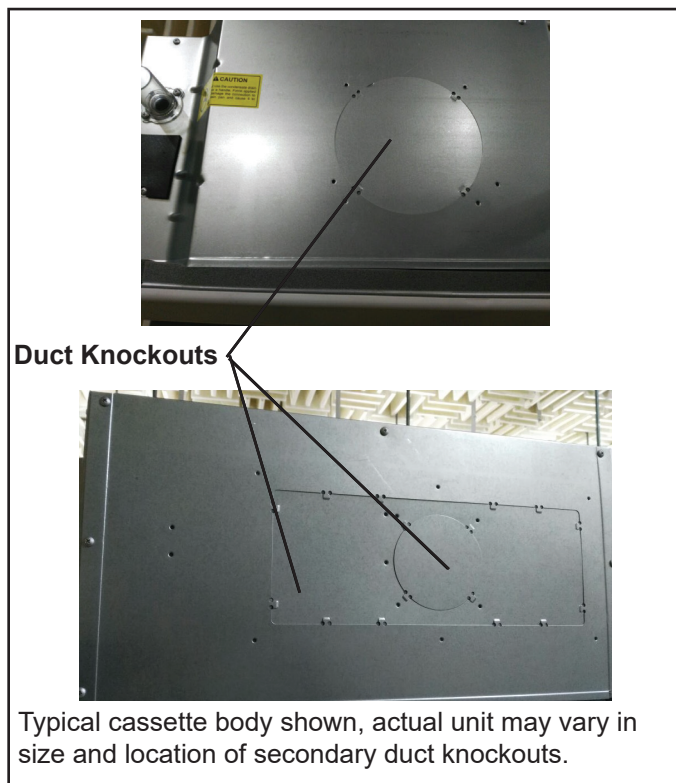

Figure 19. Typical Duct Knockout
3. Knockout the secondary supply duct opening. See Figure 19.
5. Connect the secondary supply duct to the cassette body using the eight screw holes shown in figure 19.